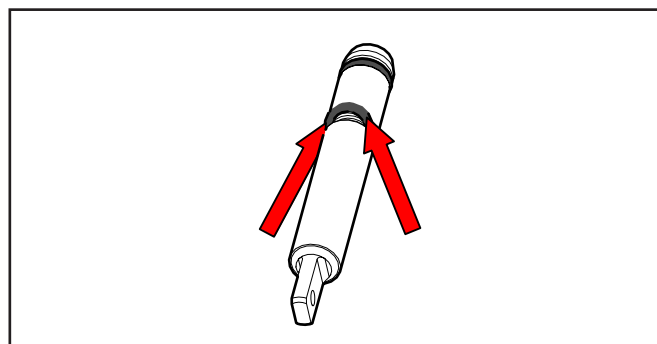

Figure 2-9 Removing O-Ring
- 6. Remove all o-rings from parts by first wiping off the lubricant using a clean towel. Then squeeze the o-ring upward to form a loop (Fig. 2-9). Roll the o-ring out of the groove.